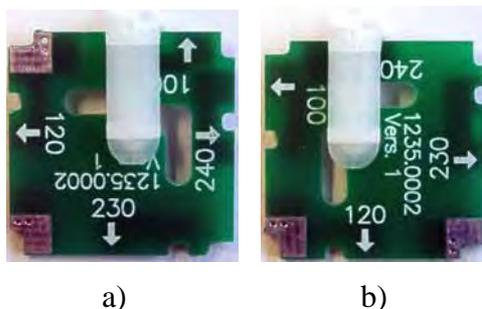

Fig. 7: Voltage selector board settings
- Turn the board so that you see the correct voltage selection, as shown in → Fig. 7.
- Without turning the board, adjust the plastic clip as required for the mains voltage (→ Fig. 7). Make sure that the clip locks into position.